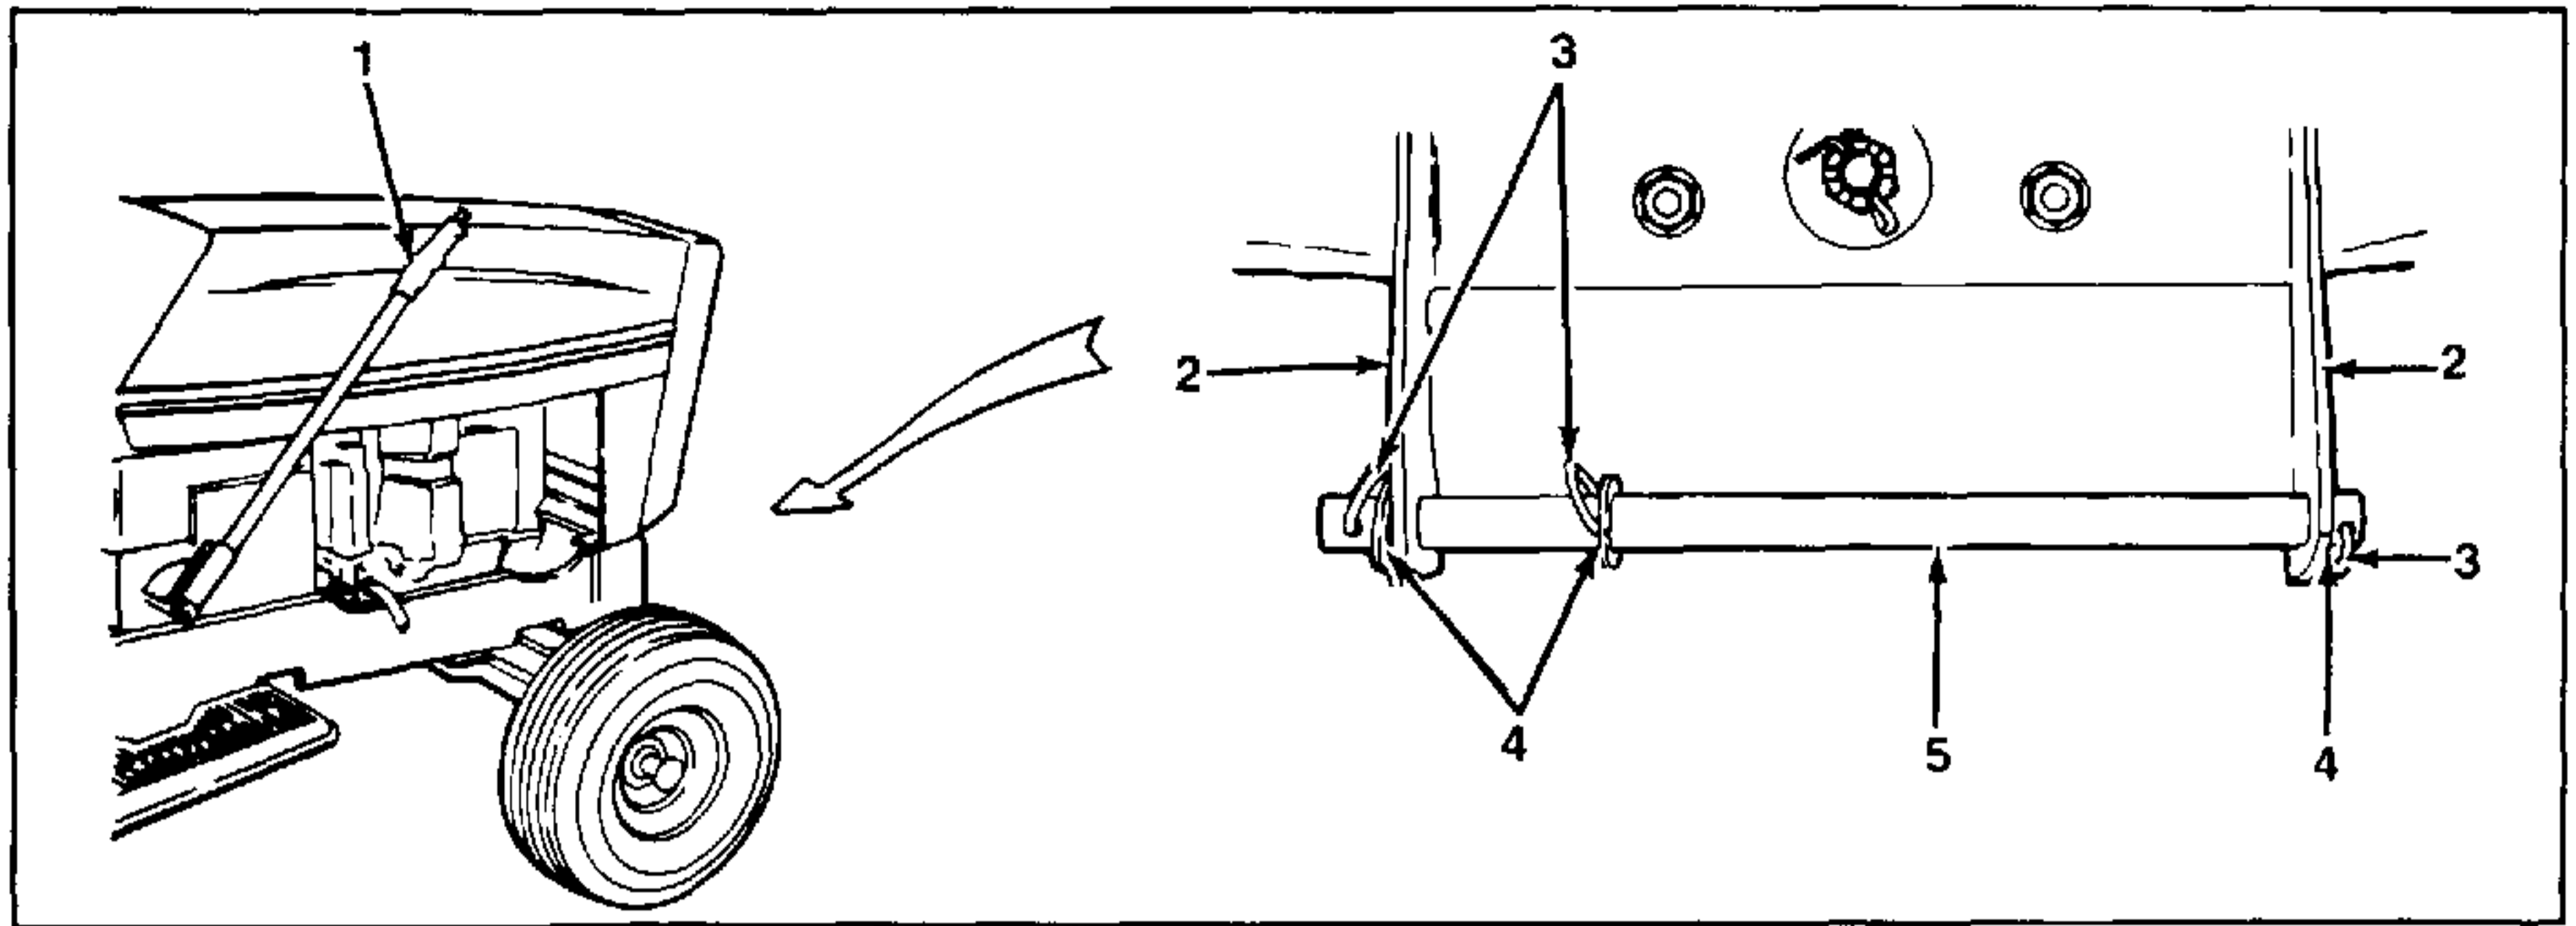

FIGURE 7.
1. Refer to figure 7. Using the steering wheel, turn the left front wheel to the left as far as possible. Remove the hairpin cotters from the right end and from the center of the tractor hanger rod. Withdraw the rod from the front hanger bracket. Collect the washers.